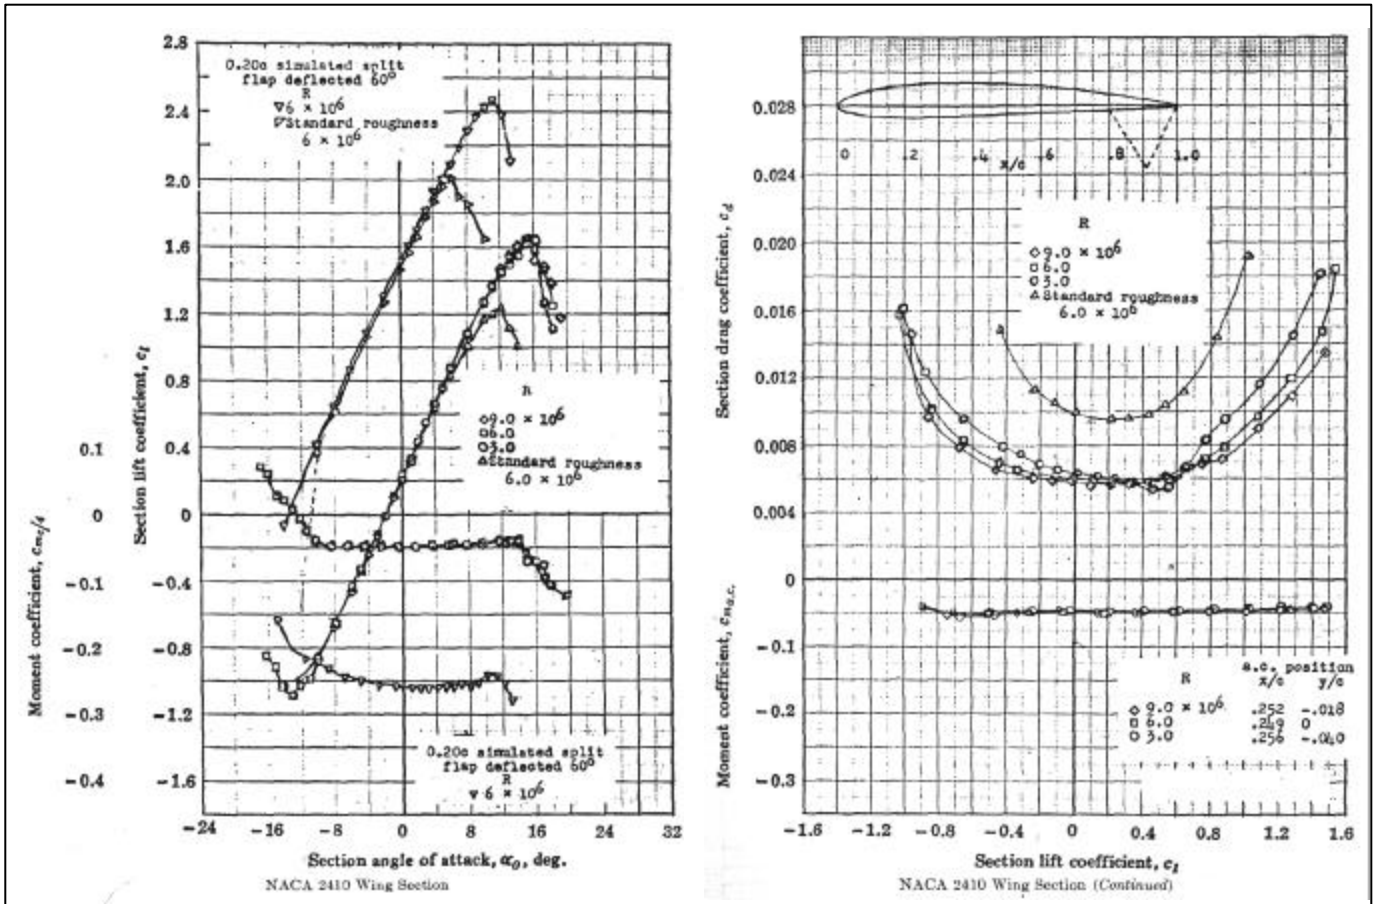

Figure 1: NACA 2410 sectional performance data
- 2) The hydrofoil being tested has a NACA 2410 section profile. The 2-D sectional force data for this foil is provided in Figure 1. From this data determine the sectional lift and drag given the following foil information:
Lab personnel will show someone in the group how to manually vary the angle of attack of the foil on the dynamometer. There will also be a gauge on the shaft of the foil to determine the angle of attack (AOA) for the foil. Starting at $AOA = 0$ deg. Collect force data at various AOA's (both positive and negative). Be sure to vary the angle enough to observe stall (the point where lift decreases for increased AOA). You'll want 15 to 20 points of AOA. (Hint: look at figure 1 to estimate the AOA range you might need to cover).
- 1) Calculations and graphs of lift coefficient and drag coefficient vs. AOF presented in a way similar to Figure 1.